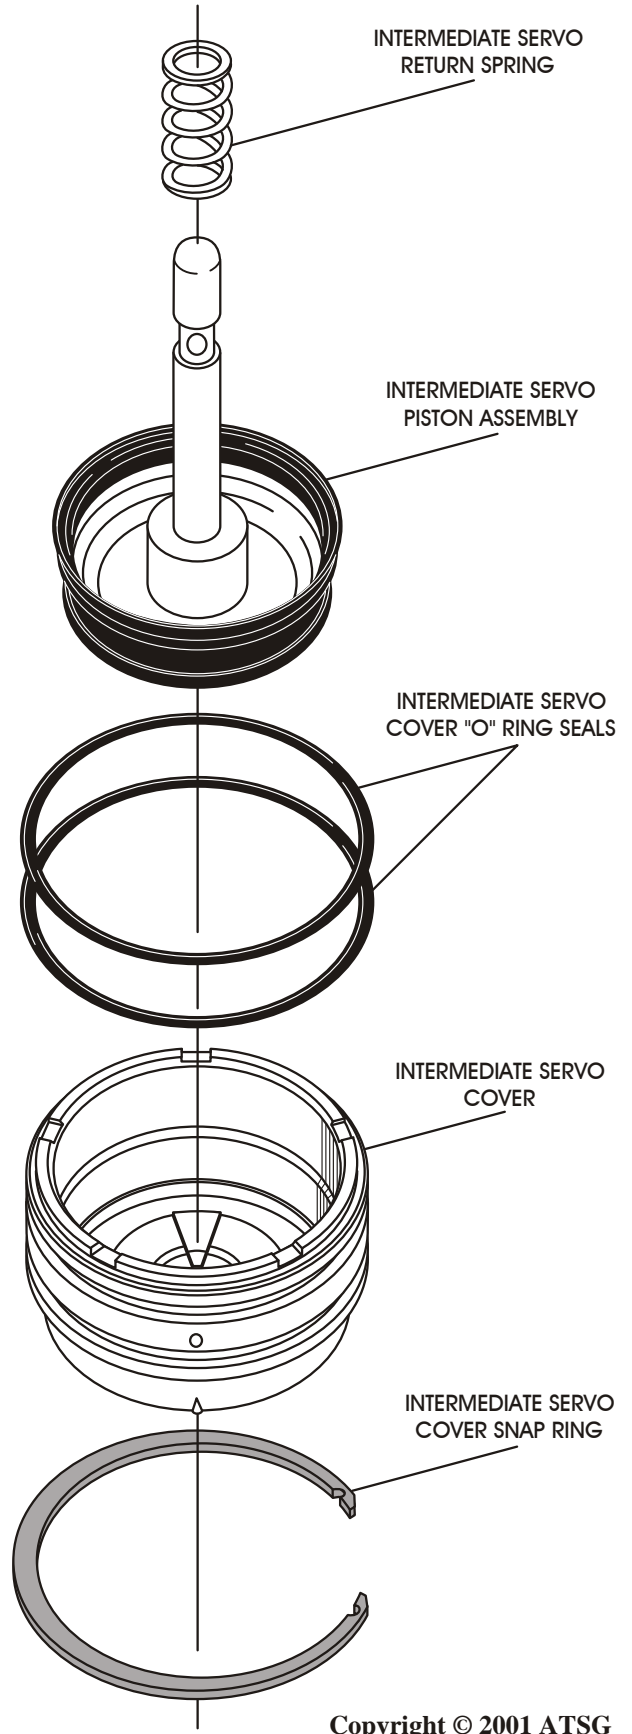

Figure 132
11. Install new "O" ring seals into the intermediate servo cover grooves, as shown in Figure 132, and lubricate with small amount of Trans-Jel®.
14. Install the intermediate servo piston into the cover with a twisting motion, until it is fully seated (See Figure 132).
15. Install the servo return spring over the pin on the back side as shown in Figure 132.